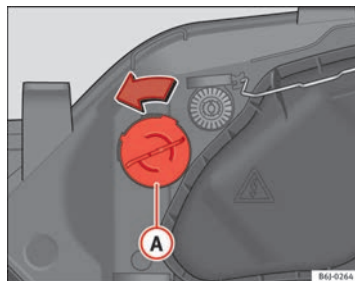

Fig. 156 Turn signal
- Rotate the bulb holder ⇒ fig. 156 Ⓐ to the left and pull.